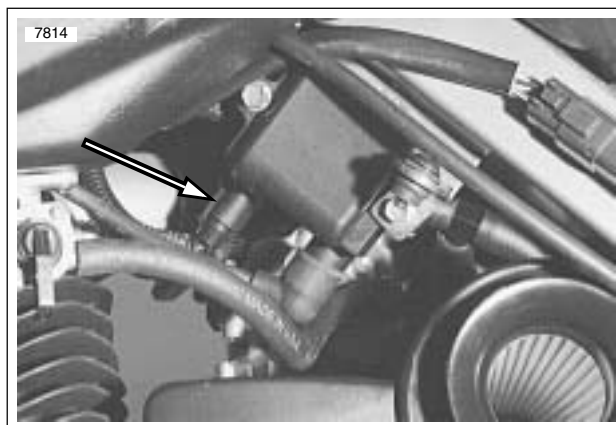

Figure 7-93. Coil Connector [83]
15. See Figure 7-93. Disconnect ignition coil connector [83] at coil.